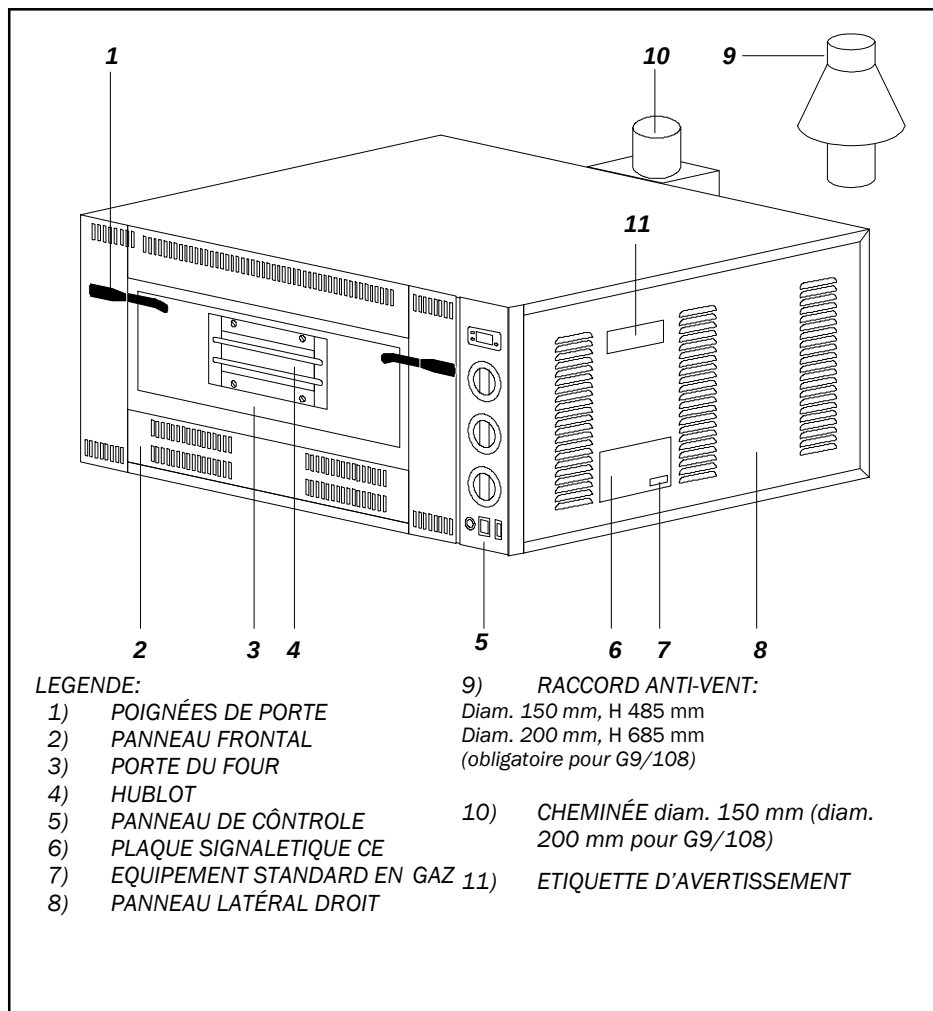

FIG.3 (DESCRIPTION COMPOSANTS)
- DÉVISSER LE PANNEAU FRONTAL (FIG.3-RÉF.2);
- DEVISSER LE PANNEAU FRONTAL (FIG.3-RÉF.2);
- DÉVISSER LE PANNEAU LATÉRAL DX (FIG.3-RÉF.8);
ENLEVER LE PANNEAU FRONTAL (FIG.3-RÉF.2); EN DÉVISSANT LES RACCORDS SPÉCIAUX DE BRANCHEMENT DÉSASSEMBLER LES CANALISATIONS DU GAZ QUI SE TROUVENT DEVANT LES BRÛLEURS À REMPLACER;
- 1) OUVRIR MANUELLEMENT LA PORTE DU FOUR (FIG.3-RÉF.3) PAR LES POIGNÉES SPÉCIALES (FIG.3-RÉF.1);